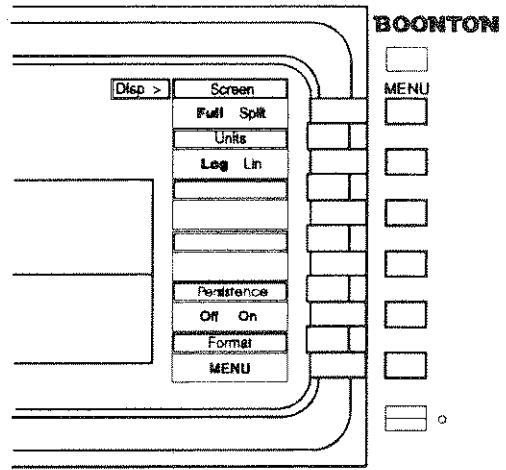

Figure 4-3a. *Disp > Menu*
7. The word “MENU” appearing in a selection box indicates that there is a submenu of additional selections at the next lower menu level. In the menu shown in Figure 4-3a, for example, when you press the *Disp > Trace Type* menu key, you will call up the *Disp > Trace Type >* submenu illustrated in Figure 4-3b.